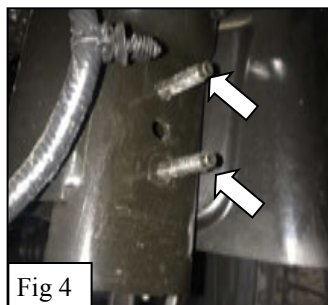

Fig 4
4. Although not necessary, it may also be helpful to remove the Active Valence. Doing so requires a 13mm socket and removing the two nuts off of each stud. See **Figure 4.** The valence may be reinstalled after completing the installation.